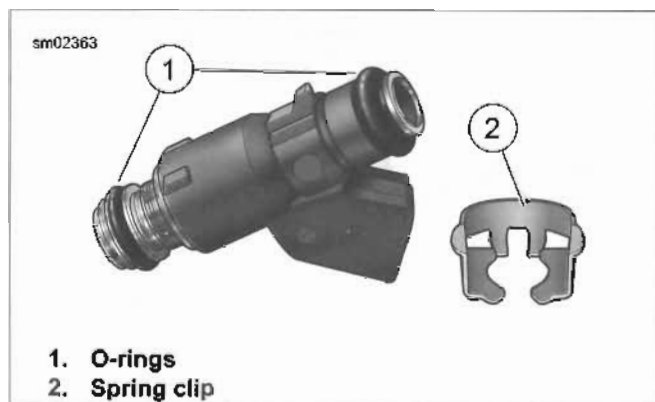

Figure 4-32. Fuel injector
5. See Figure 4-32. Remove spring clips (2) from fuel injectors. Pull fuel injectors from fuel rail. To overcome the resistance of the top O-ring, gently rock each fuel injector while pulling.
6. Remove O-rings (1) from fuel injectors. Discard O-rings.
1. See Figure 4-32. Apply a thin coat of clean engine oil to new fuel injector O-rings (1). Install on fuel injectors.